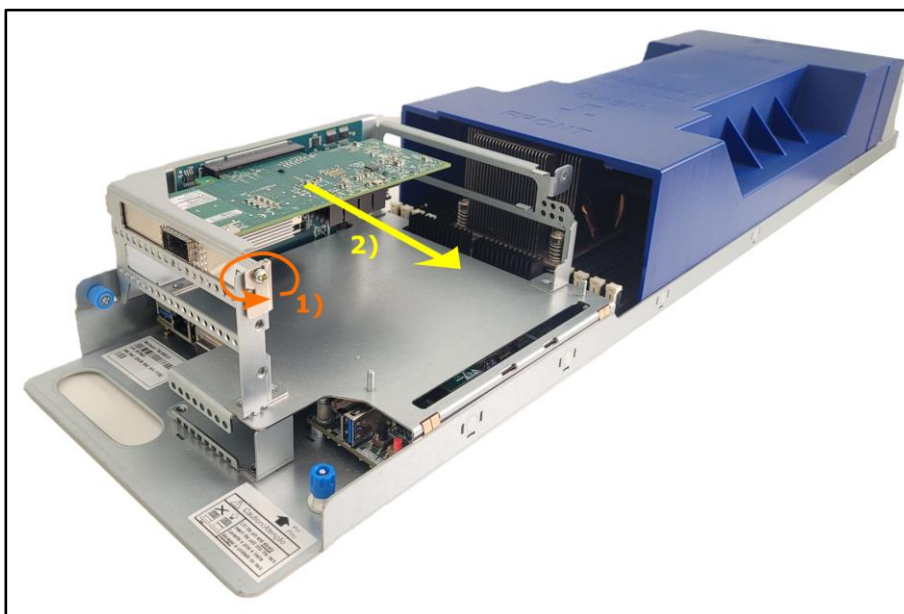

Figure 90: PCIe card removal
2. Manually disconnect the PCIe connector from the riser card slot, as shown on step “2” from the Figure 90.